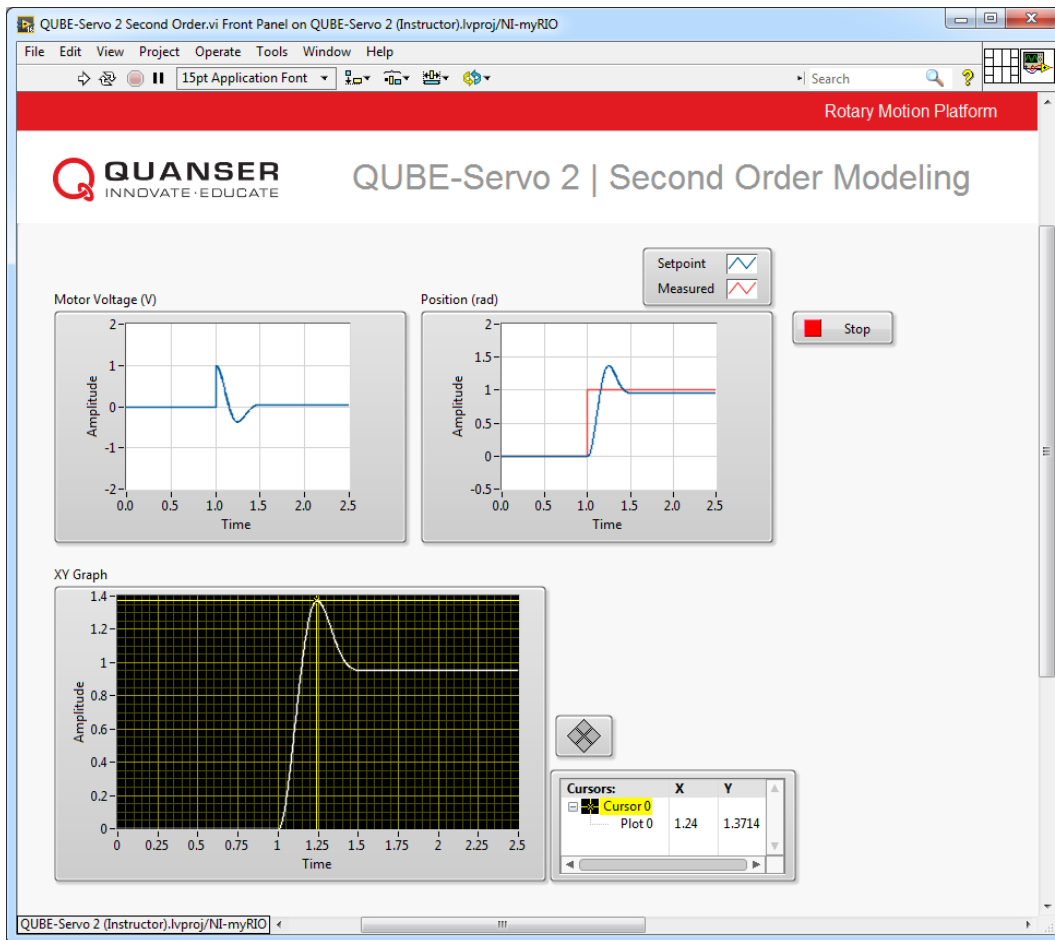

Figure 2.2: Unity feedback QUBE-Servo 2 step response
- Run the VI. The scopes should look similar to Figure 2.2.